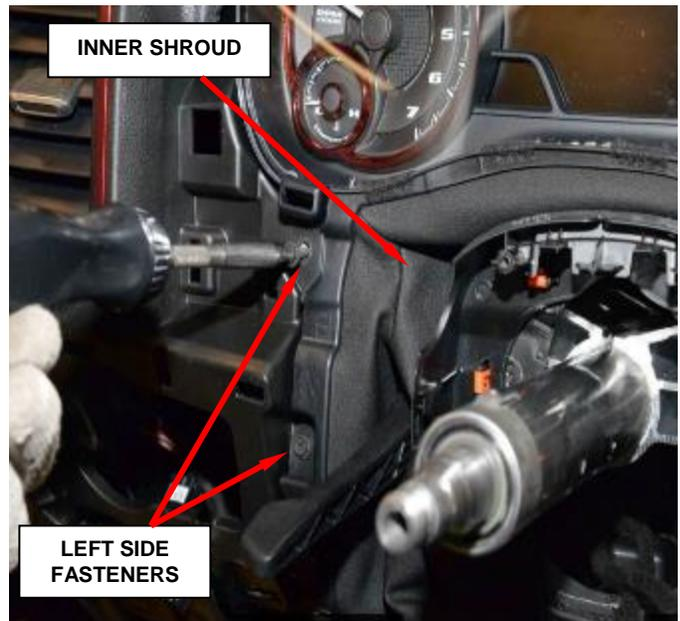

Figure 17 – Inner Shroud
22. Remove the inner shroud and connectors (Figure 17).